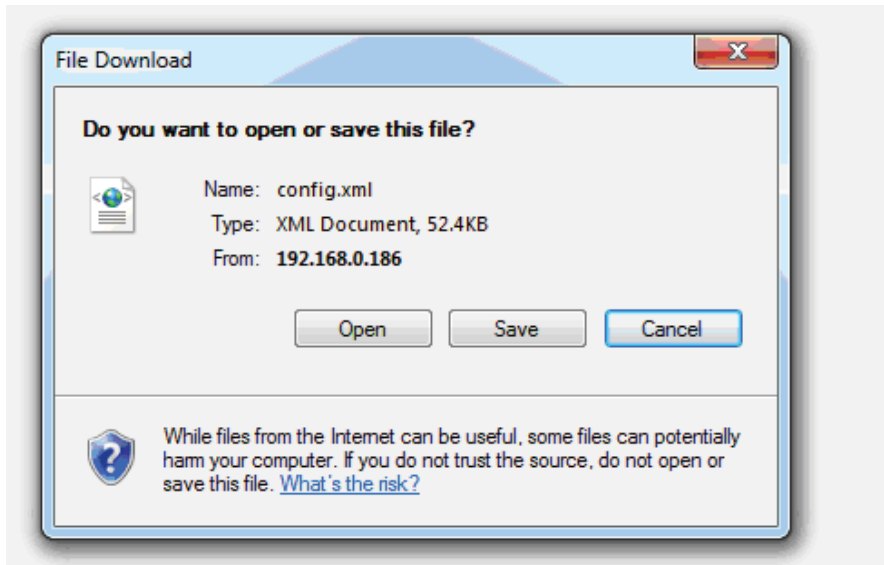

Figure 4-2-23: File Download Screen
1. Press the **“Save Configuration”** button to save the current configuration in manager workstation. The following screens in Figure 4-2-23 & 4-2-24 appear